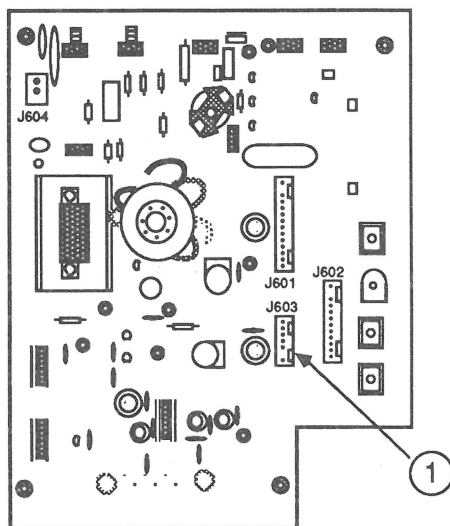

FIGURE 30
7. Disconnect the six-wire cable from connector J603 (Figure 30, #1) on the video board.